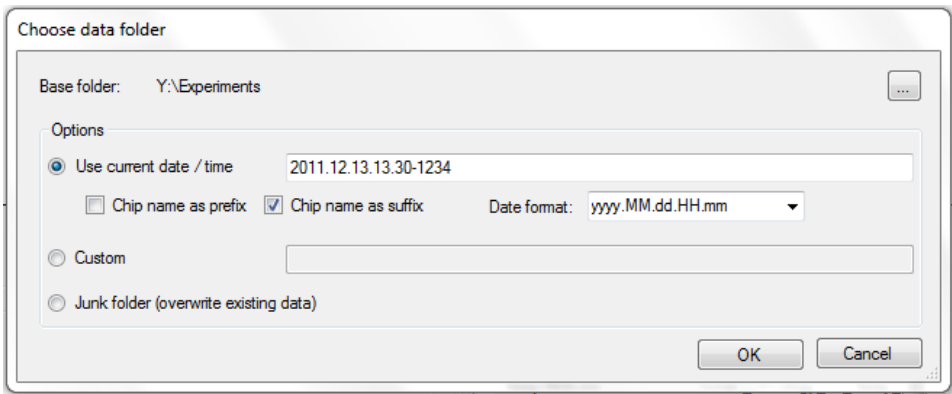

Figure 53. Choose data folder window.
- 8. In the “Choose data folder” dialog box (Figure 53) that appears, select a destination folder and file name options for your run data, and click [OK].